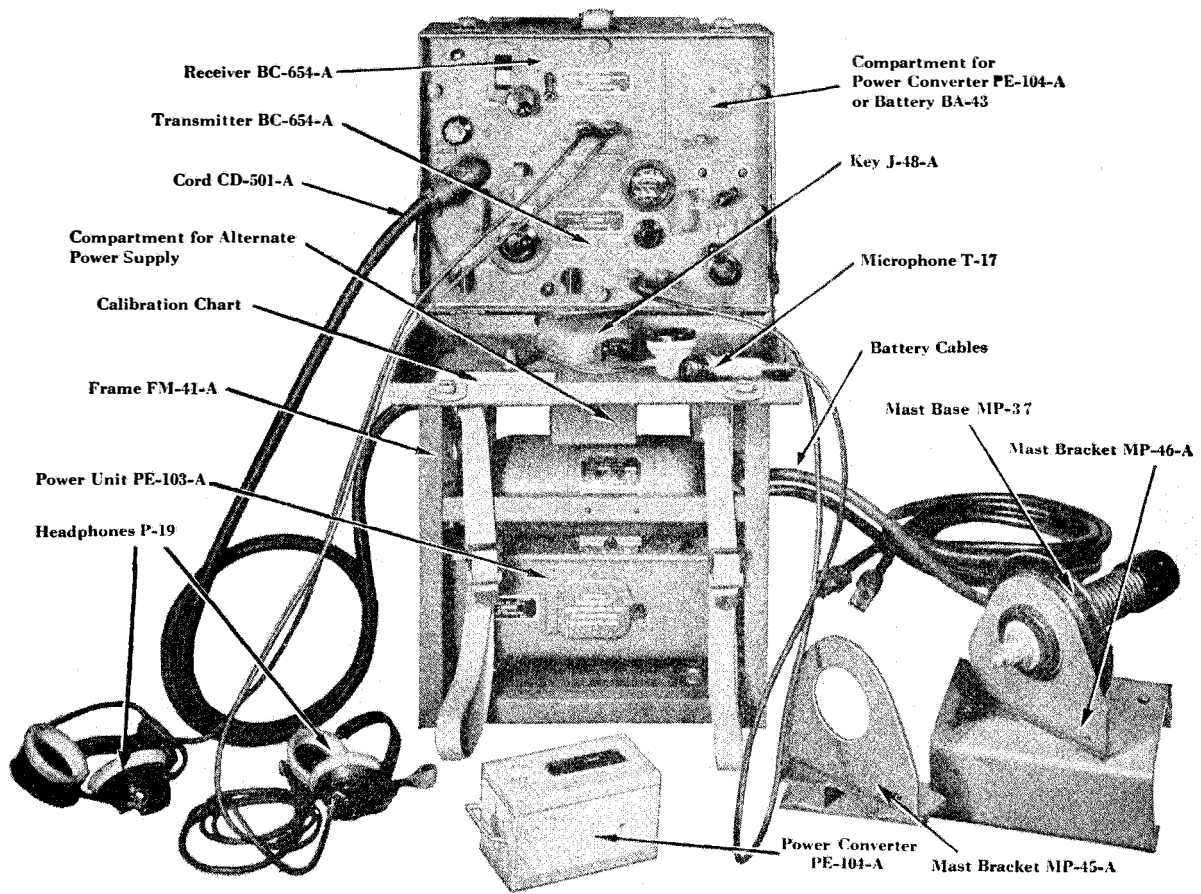

FIG. 2. RADIO SET SCR-284-A—VEHICULAR INSTALLATION COMPONENTS
a. Radio Receiver and Transmitter BC-654-A-(FIG. 2)
b. Frame FM-41-A:— (FIG. 2)
c. Battery BA-43:— (FIG. 2)
d. Power Converter PE-104-A:— (FIG. 2)
(1) The 25-ft. rod antenna consists of eight Mast Sections, MS-49 to MS-56 inclusive.
(2) The 15-ft. rod antenna consists of five Mast Sections, MS-49 to MS-53 inclusive.
h. *Antenna Mounting*:— (FIG. 2)